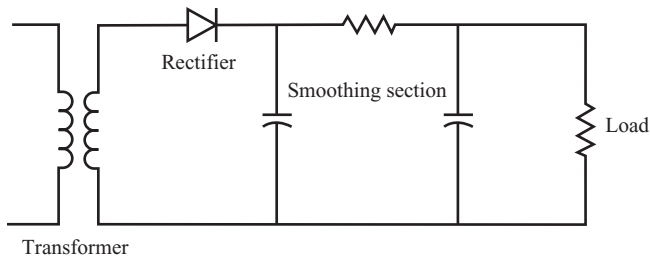

FIGURE 11.31
**14** A basic power supply circuit can be divided into four sections, as shown in Figure 11.31.
- B. Will the power supply circuit shown in Figure 11.31 result in full- or half-wave rectification? \_\_\_\_\_
- C. What type of output will the rectifier section of the power supply circuit shown in Figure 11.31 produce? \_\_\_\_\_